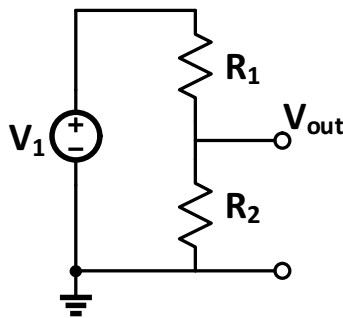

Figure 13: voltage Divider Circuit.
1. Consider a common method for DC-DC conversion shown in Fig. 13. The circuit in Fig. 13 is a voltage divider. Assume  $V_1 = 25\sqrt{2} \text{ V}$ . Compute the efficiency  $\eta$  of the voltage divider circuit for the values of  $V_{\text{out}}$  shown in table 8. You may assume  $R_1 = 1 \text{ k}\Omega$ . ( $\eta = \frac{\text{output power}}{\text{input power}}$ )